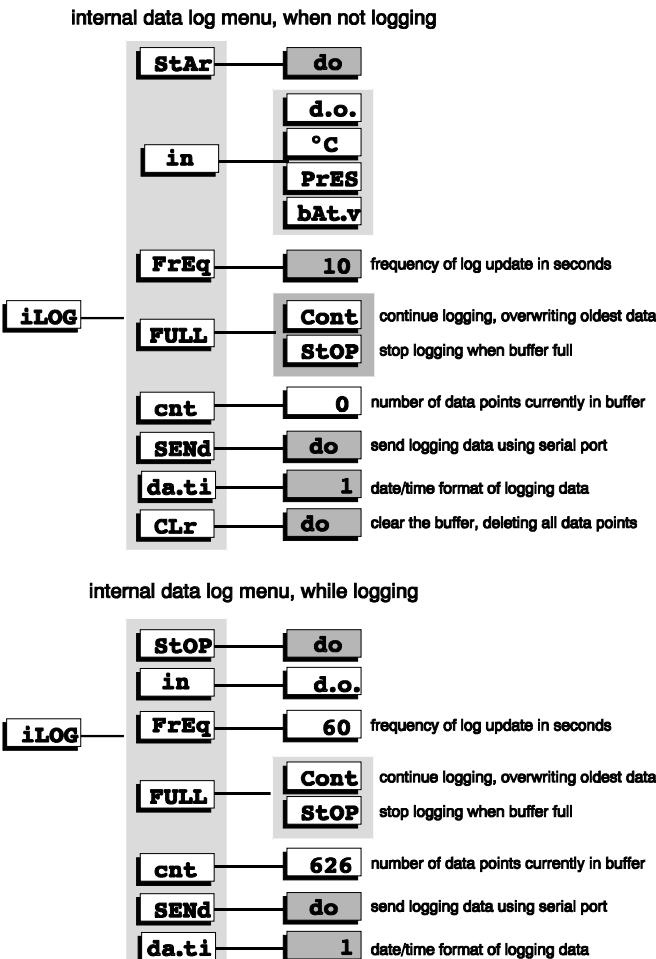

Figure 24 Internal data log menu
3. When you are ready to start logging, select [ iLOG ] [ StAr ] from the menu. Press Enter when the flashing [ do ] is displayed. The analyzer will briefly display [ donE ] to indicate that it has completed the desired action (starting the data log). At this point the logging menu will change somewhat, to indicate the options available while logging is in progress. Refer to figure 24.